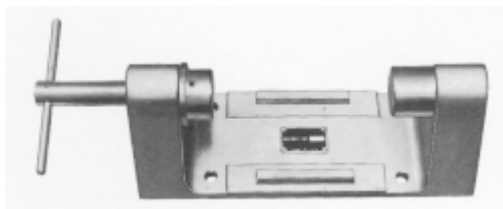

Fig. 3-7 - Carrier Holding Fixture
2. Place rod and carrier in holding fixture, Fig. 3-7, and remove piston pin bolts. This fixture has two mandrels which enter the piston pin bore to hold the pin while the rod bolts are removed. It must be securely mounted on a work surface. If fixture is unavailable, a vise having copper protected jaws may be used to hold the connecting rod. Clamp rod horizontally with pin close to vise so pin bolts may be removed without twisting rod.